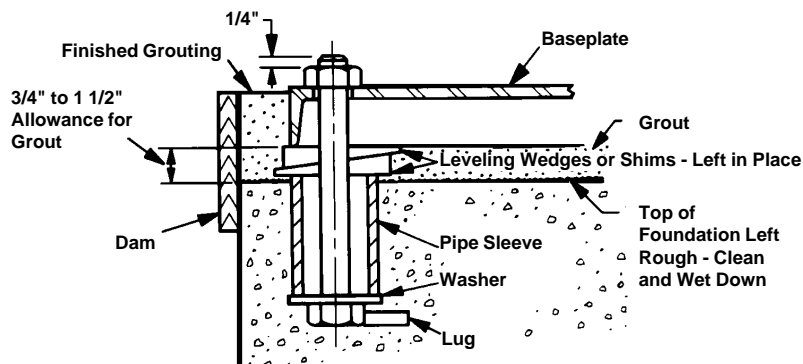

Figure 2-1 Foundation
3. Support the baseplate on metal shims or wedges having a small taper. (Refer to Figure 2-1)